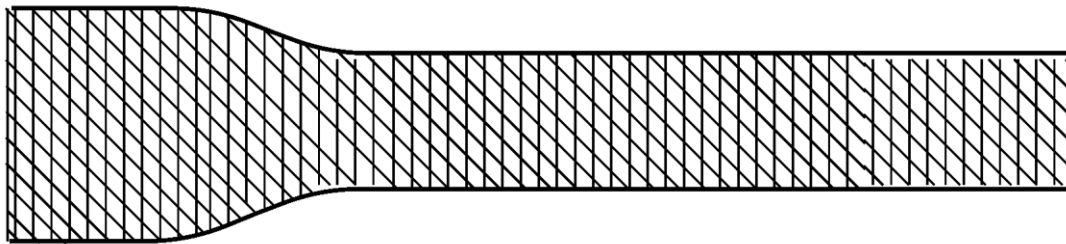

Figure 28
2. Stretch the width of the end of the braid for 4 – 5 “. Place the braid on the metallic shield, parallel to the cable. The goal is to maximize the contact area of the braid with the metallic shield. Wrap the constant force spring over the braid. Use up all of the spring. Caution: There must be some metal to metal contact between the braid and the spring – to prevent any partial discharge at this location. Refer to Figure 28.